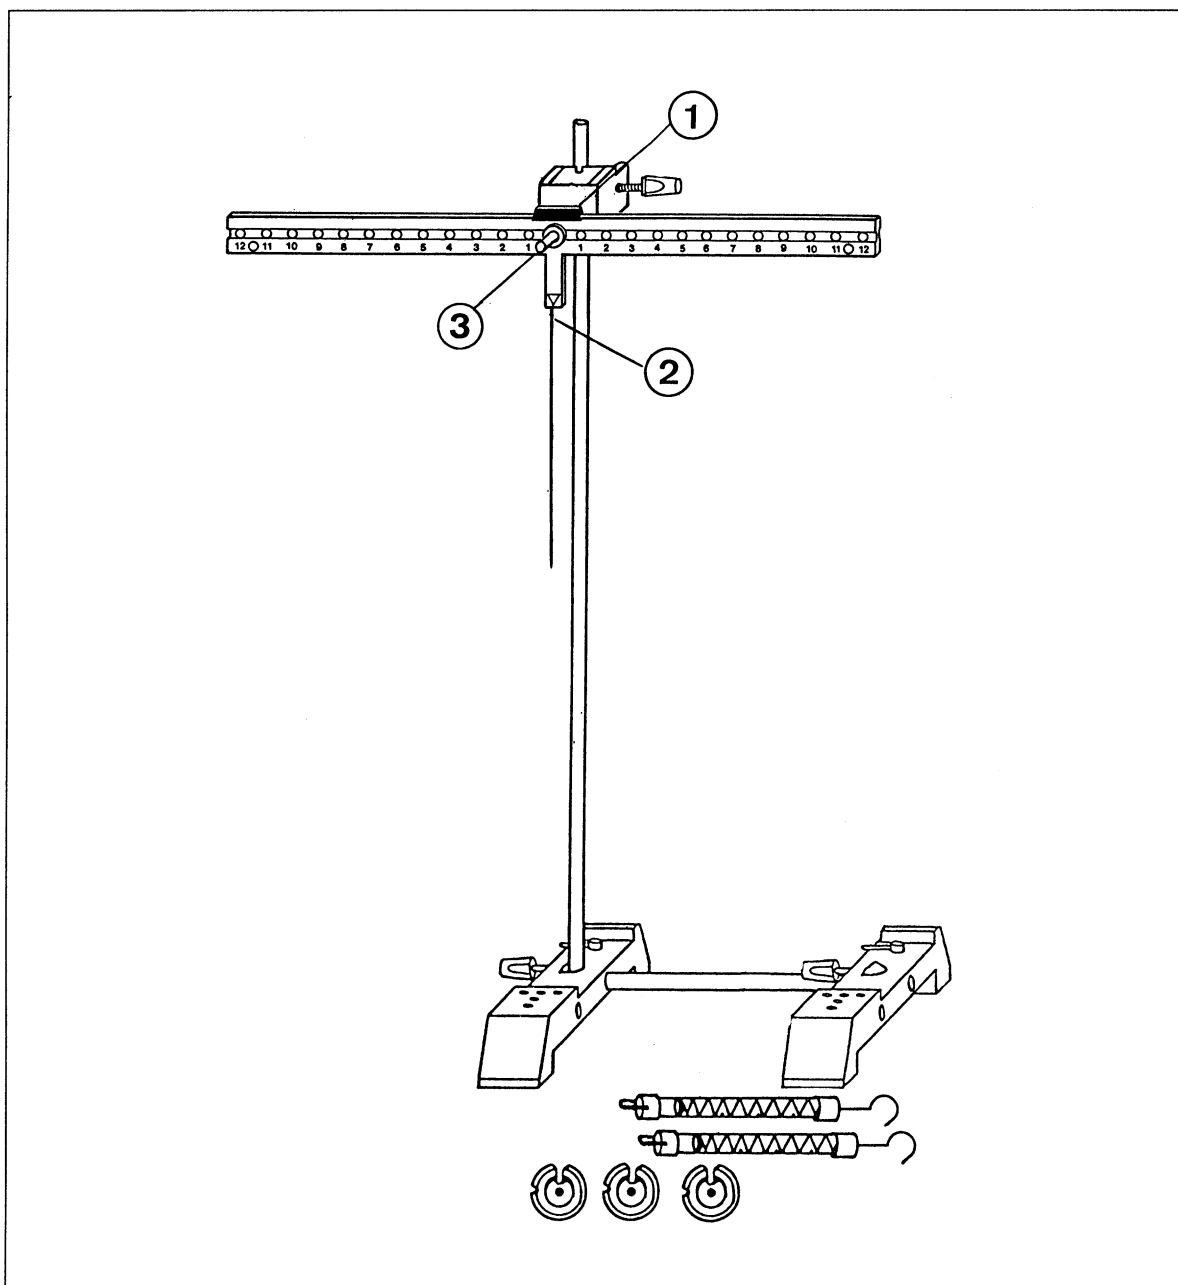

Fig. 1 Setup for experiments using a two-sided lever
1. Assemble the stand bases and stand rods as shown in fig. 1.